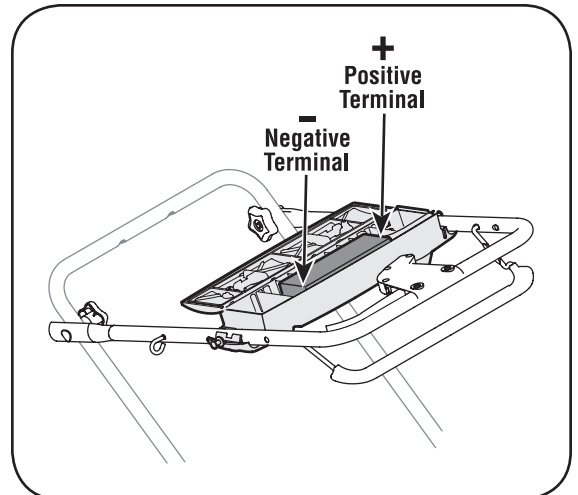

Figure 5-7: Open cover to view battery and wires.
3. Open battery cover, remove positive and negative leads from battery, remove and replace with new battery. See Figure 5-7. Connect the positive lead to the positive side of the battery pack, then connect the negative side.
NOTE: The battery you have may differ slightly from the one shown in Figure 5-7. Refer to the Parts List.
IMPORTANT: When replacing battery pack in handle panel, battery pack must be positioned with the positive terminal to the left side and the negative terminal to the right side of panel (Positive terminal is closest to the key switch), Figure 5-7. Replacing battery pack incorrectly will cause serious damage.